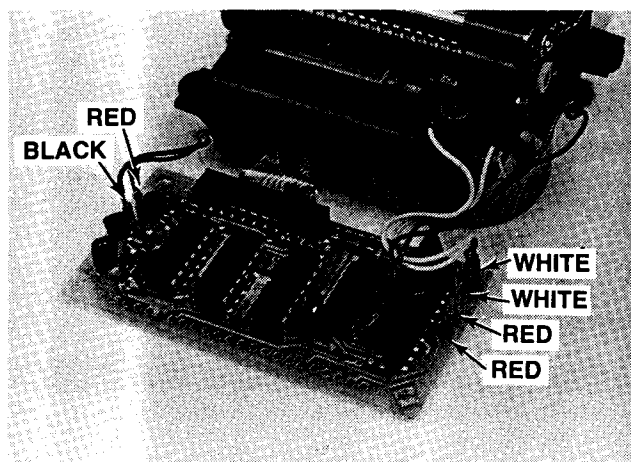

Figure 4-11. Printer PCA Lead Location
- (1) Remove paper from the printer and press **PRINT X**. The display should show "Error," and the printer should not attempt to print. If the out-of-paper switch passes this test, proceed to step b; otherwise, continue troubleshooting the problem at step (2).
- (2) If the out-of-paper switch does not inhibit printing as described above, disconnect the two red leads from the printer PCA near the "0" (see figure 4-11) and insert a continuity tester between them. If the tester does not light with paper out of the printer, clean or—if necessary—replace the out-of-paper switch after disassembling the printer using steps b and c and figure 6-2.
- (3) If step (2) shows the out-of-paper switch to be functioning properly, disconnect the red and black leads to the paper advance switch from the logic PCA (see step 6 of the HP-97 assembly removal and replacement procedures, paragraph 3-24) and insert a continuity tester between them. If the tester does not light (when the paper advance switch is **not** pressed), replace the switch by following the procedures given in step 12 of the procedures referenced above, paragraph 3-24.
- (4) If steps (2) and (3) show the out-of-paper switch and the paper advance switch to be functioning properly, replace ROM 0 on the logic PCA.
- b. Disconnect the dc motor leads (one red and one black), out-of-paper switch leads (two red), and reed switch leads (two white) from the printer PCA. (See figure 4-11.)